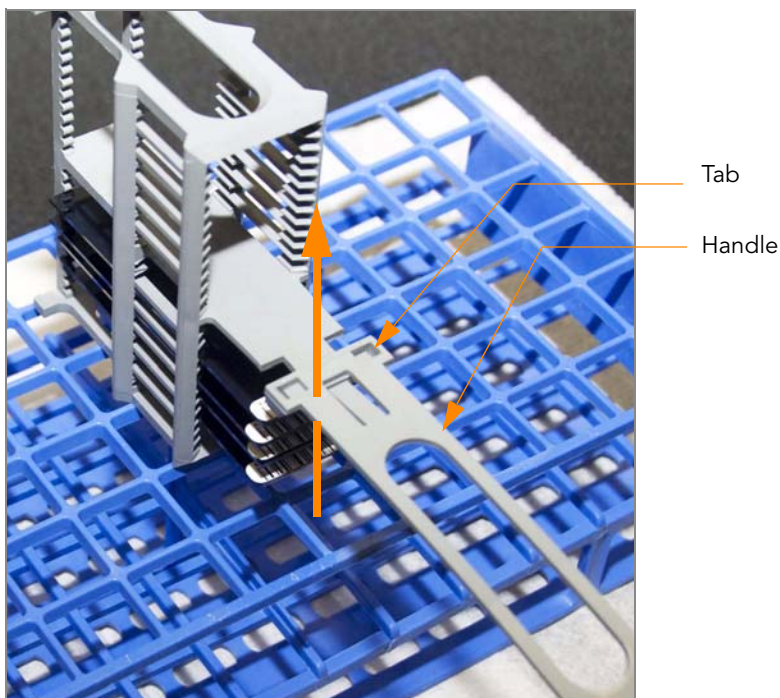

Figure 171 Removing Staining Rack Handle
20. Holding the top of the staining rack in position, grasp the handle between your thumb and forefinger. Push the tab up and push the handle away from you to unlock it. Pull up the handle and remove (Figure 171).